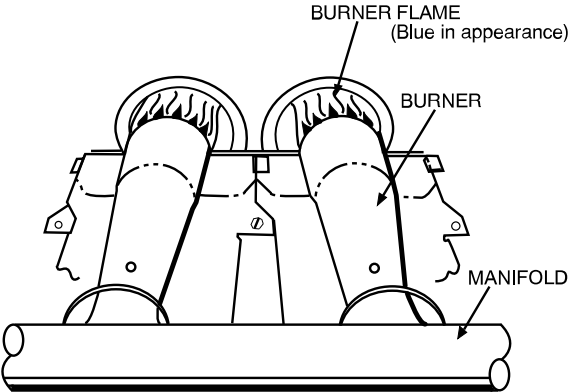

Fig. 15 – Monoport Burner
31. With control access panel removed, observe unit heating operation. Watch burner flames to verify that they are blue in appearance, and that the flames are approximately the same for each burner (see Fig. 15).